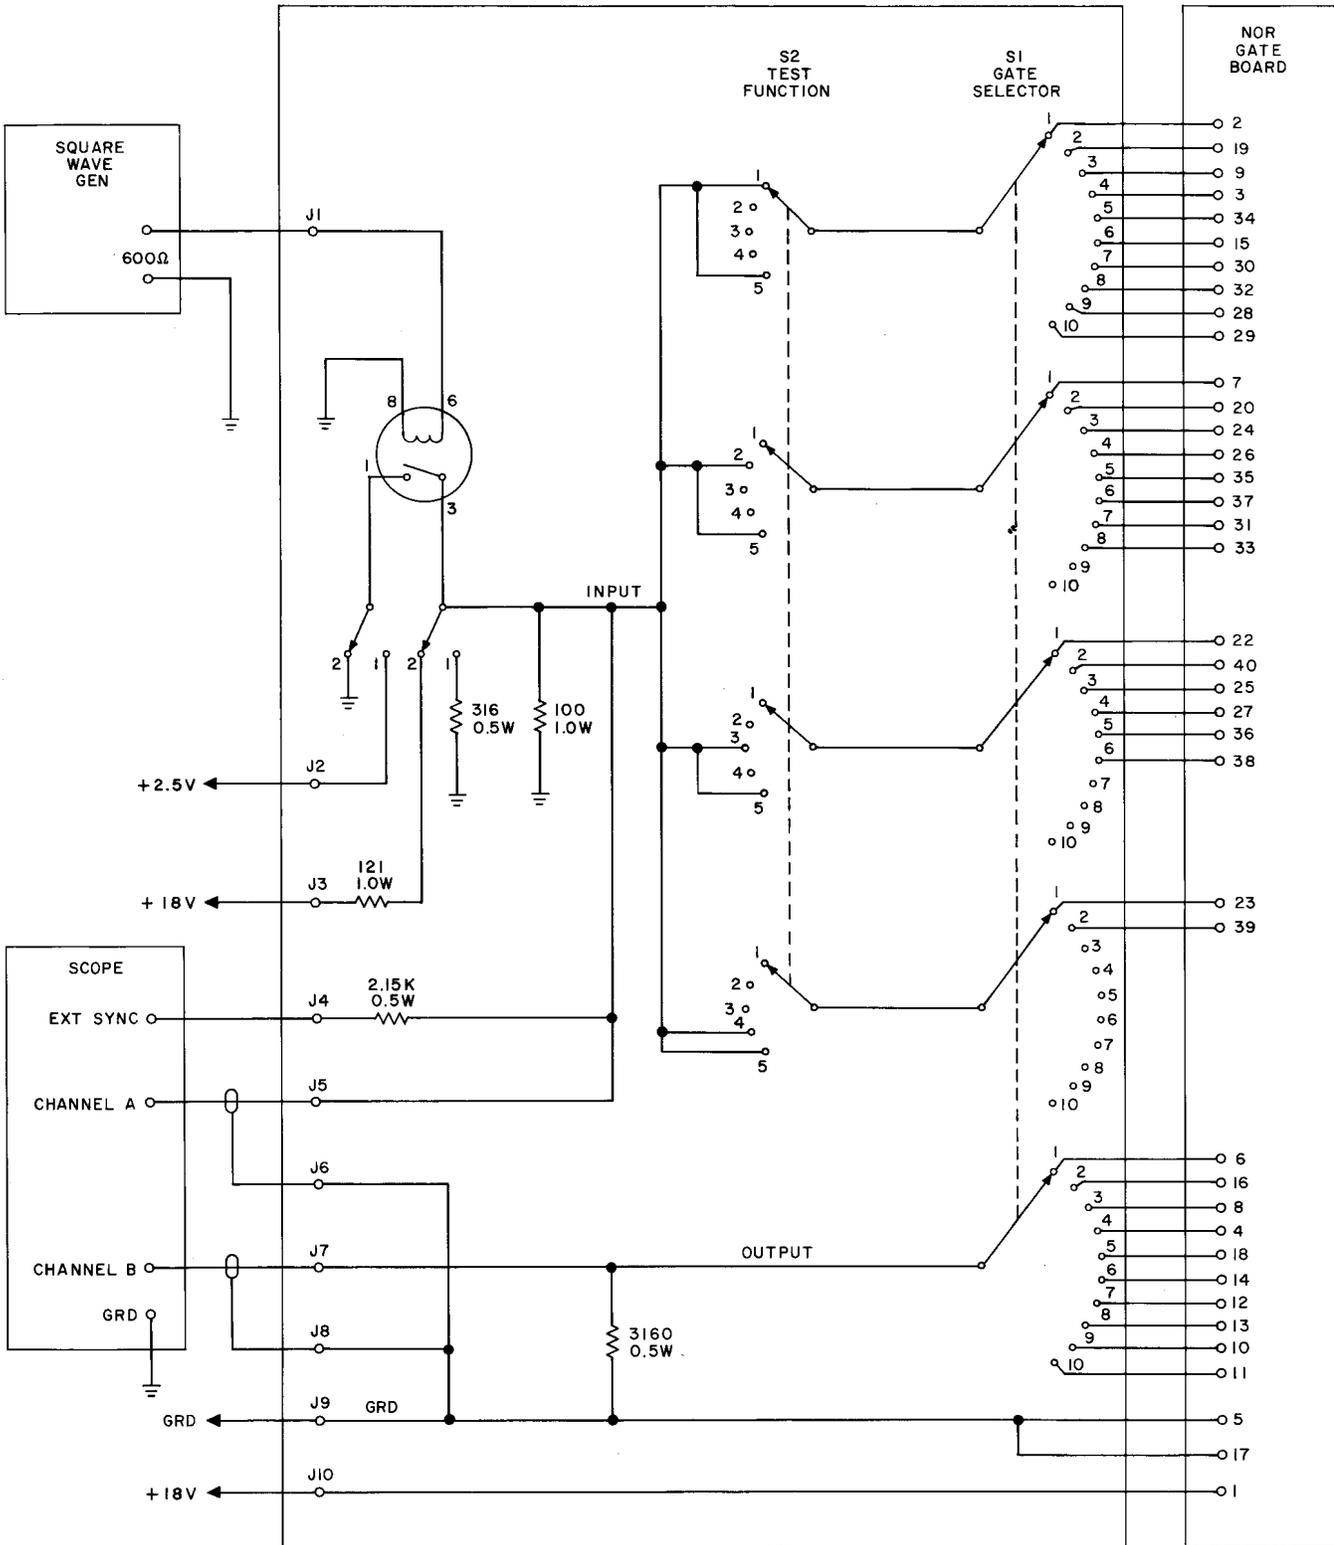

Fig. 1A — NOR Gate Test Set
- 1 — NOR gate test set such as shown in Fig. 1A
- (1) Connect the test circuit as shown in Fig. 1A.